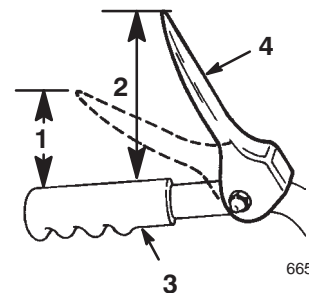

Figure 8
3. Check the distance between the top of the handgrip and the bottom of the auger/impeller drive control lever (Fig. 8). The distance should be approximately 4 inches (ten centimeters).
the top of the handgrip and the bottom of the auger/impeller drive control lever is 1 to 2 inches (2.5 to 5.0 centimeters) as shown in Figure 8.